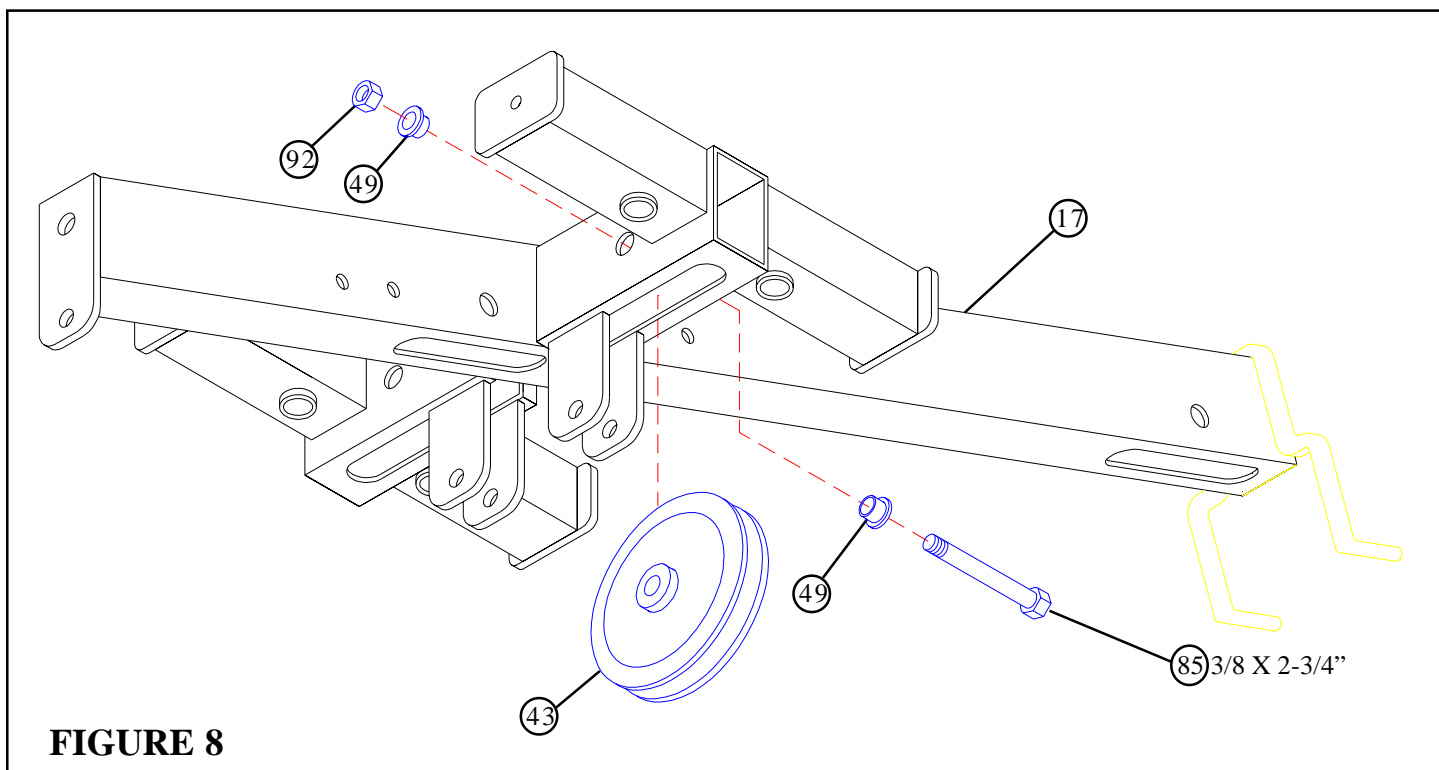

FIGURE 8
- **LOOSELY** assemble one 4-1/2" PULLEY (43) to the TOP BOOM (17) using one 3/8 X 2-3/4" BOLT (85), two 3/8" FLANGE SPACERS (49), and one 3/8" LOCK NUT (92). See FIGURE 8.